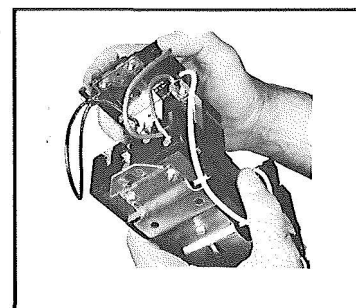

Figure 4. Installation of push button or selector switch.
8. Slide the push button onto the mounting bracket as shown in Figure 4, using the circular slots of the bracket.